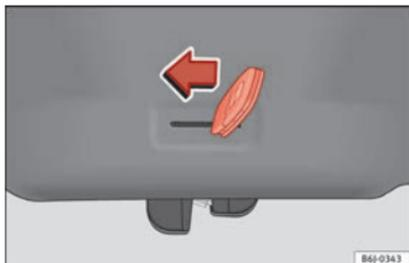

Fig. 4 Unlocking the rear lid manually.
- Insert the key in the groove and unlock the locking system, turning the key from right to left, as shown by the arrow »» Fig. 4.